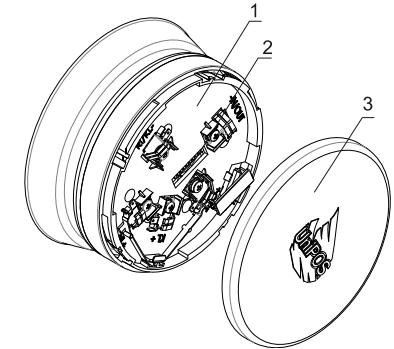

Fig.1
A command for activation is sent from the 7002 panel to the stand-alone beacon sounder – menu "Setup → Checks → Addressable outputs" and choose the signal loop's INDIVIDUAL address of the beacon sounder. The beacon sounder should activate with the pre-defined sound mode (from the micro-switches, pos.2, fig.1);
The sounder and beacon device can be used as a stand-alone device with an individual address on the signal loop. The FD7204 is triggered on IFS7002 panel's command for activation (fig.1);
The beacon sounder is consisted of a body with integrated detector's base (pos.1, fig.1), micro-switches for FD7204's parameters set-up (pos.2, fig.1) and a plastic cover (pos.3, fig.1).